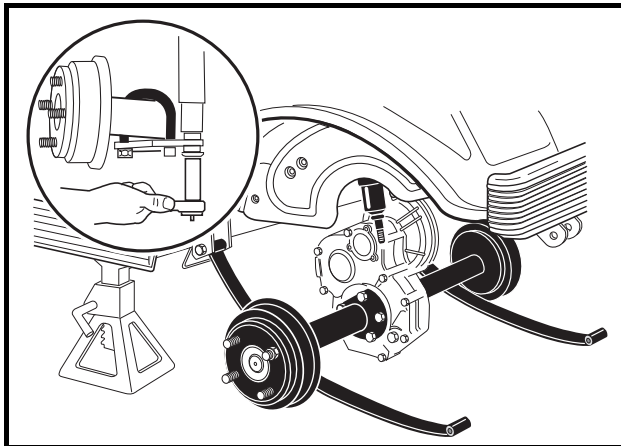

Figure 16a-3 Lower Axle
9. Remove the four bolts that mount the motor to the transaxle (**Figure 16a-18, Page 16a-14**). See following **CAUTION**.